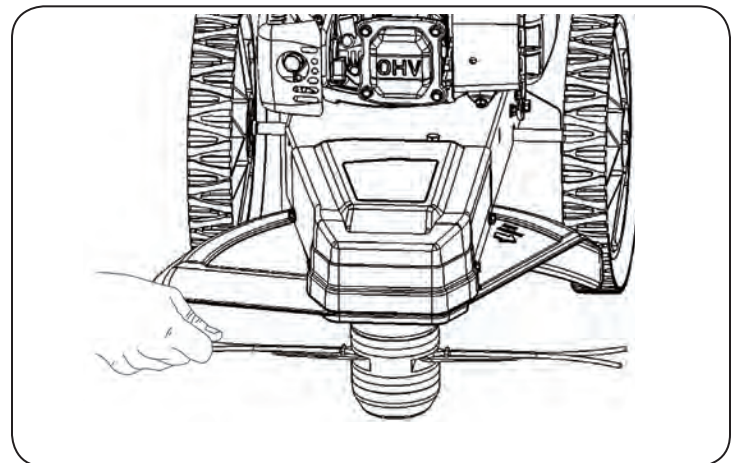

Figure 10
1. Insert the ends of the cord into the side opening in the line plate (see Figure 10).